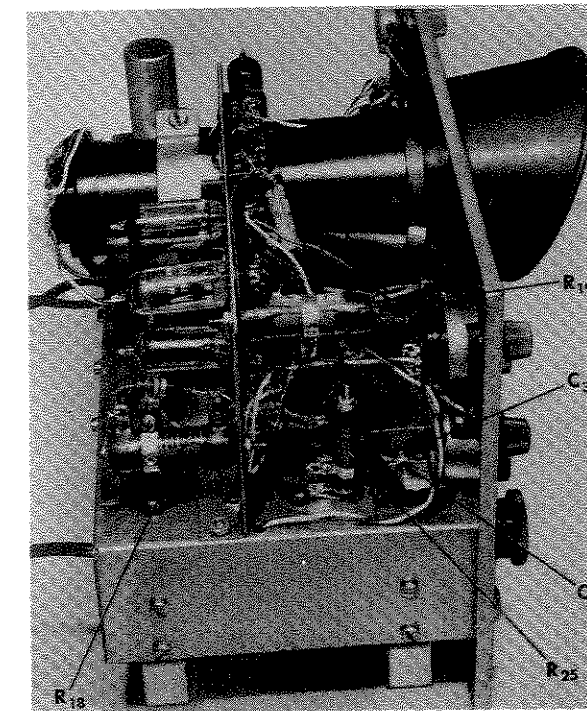

Figure 18A. Side View of WO-57A Chassis
To gain access to the chassis for replacement of tubes or for servicing, remove the four screws at the front of the instrument and the four screws at the bottom. The chassis can then be removed from the case. Refer to Figures 18A and 18B for the physical location of the adjustable parts in the WO-57A. CAUTION: Remove power when adjusting slide resistors R18, R19, and R25 (Figure 18A).
3. Adjust R18 for a screen-grid voltage of 150 volts on tubes V1 and V2. (Measurements should be made between pin 6 and ground.) CAUTION: Remove power from the instrument when adjusting slide resistor R18 (Figure 18A).
5. Connect the plates (pin 5) of V1 and V2, shorting across the load resistors R20 and R21, and adjust R19 for 72 to 80 volts between these plates and ground. CAUTION: Remove power from the instrument when adjusting slide resistor R19 (Figure 18A).
volts between the plates and ground. CAUTION: Remove power from the instrument when adjusting slide resistor R25 (Figure 18A).